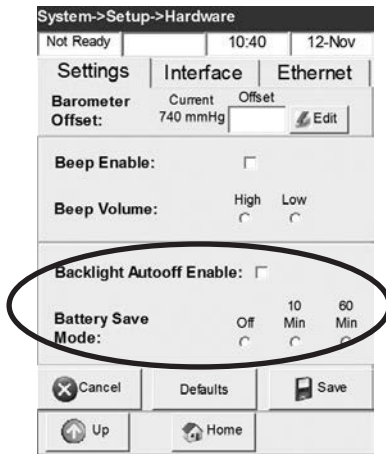

Fig. 3-38 Backlight Auto-Off
3. In the **<Hardware>** screen, select the following options (Fig. 3-38):